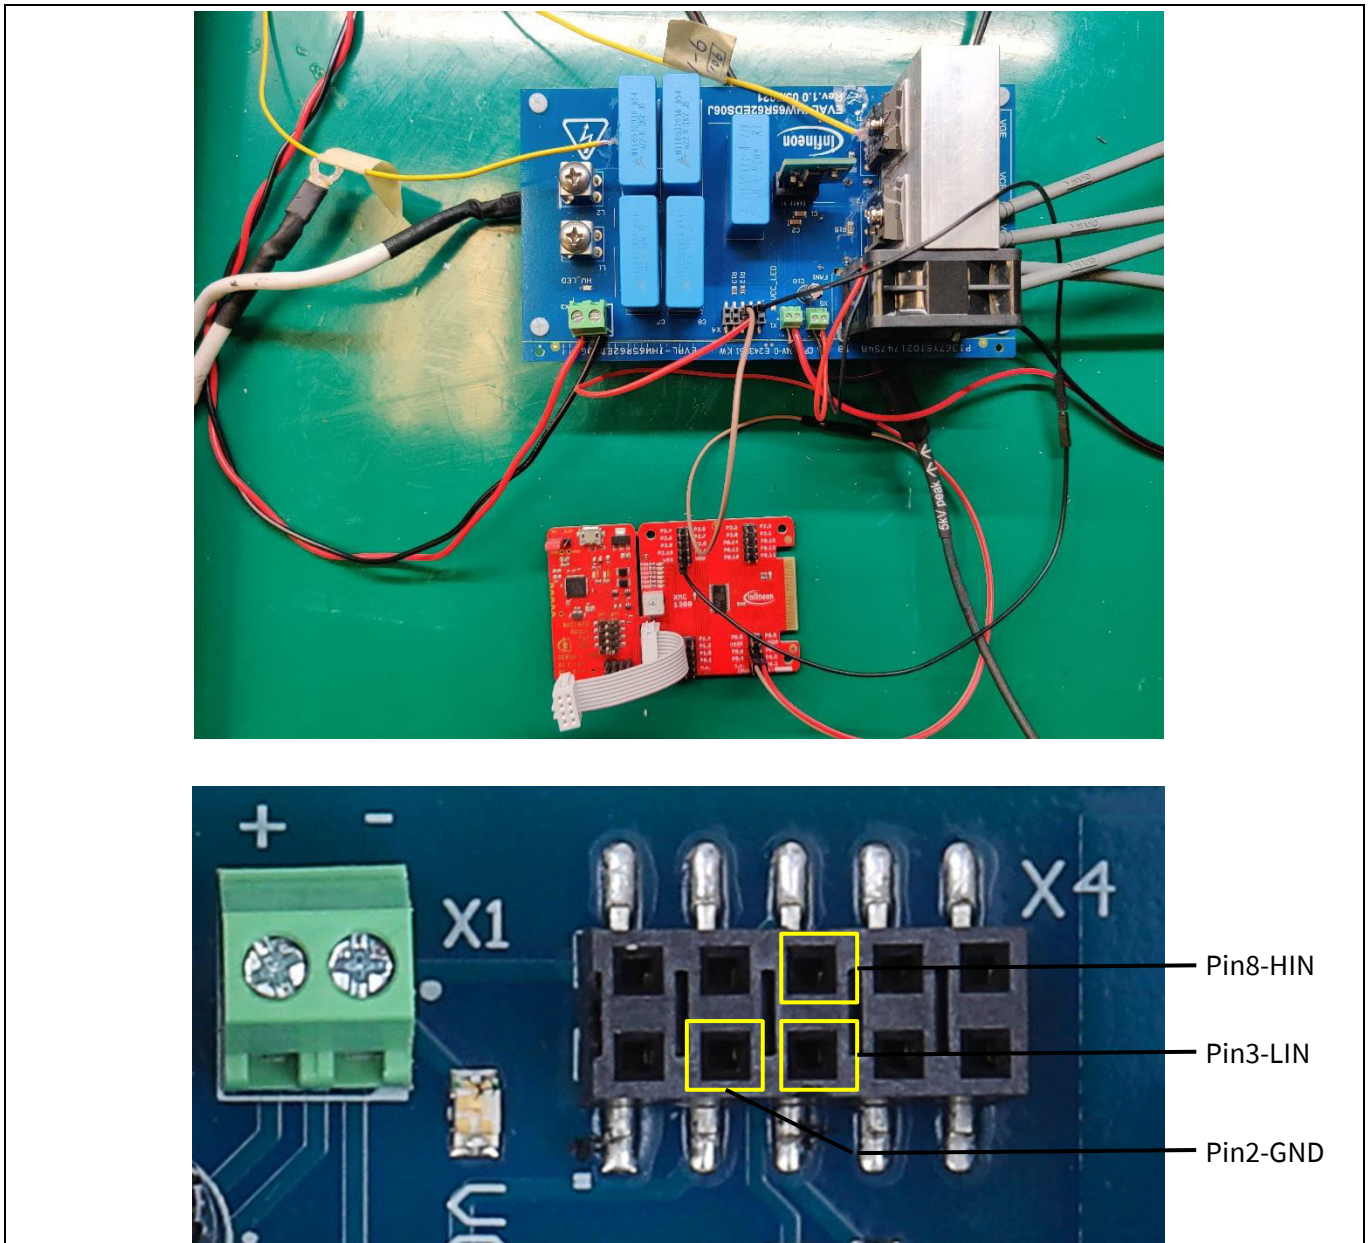

Figure 3 Connection of digital interface X4 to the Boot Kit XMC1300
3. Connect the JP104 of the Boot Kit XMC1300 to the connector *X4* of the evaluation board, as indicated in Figure 3¹.